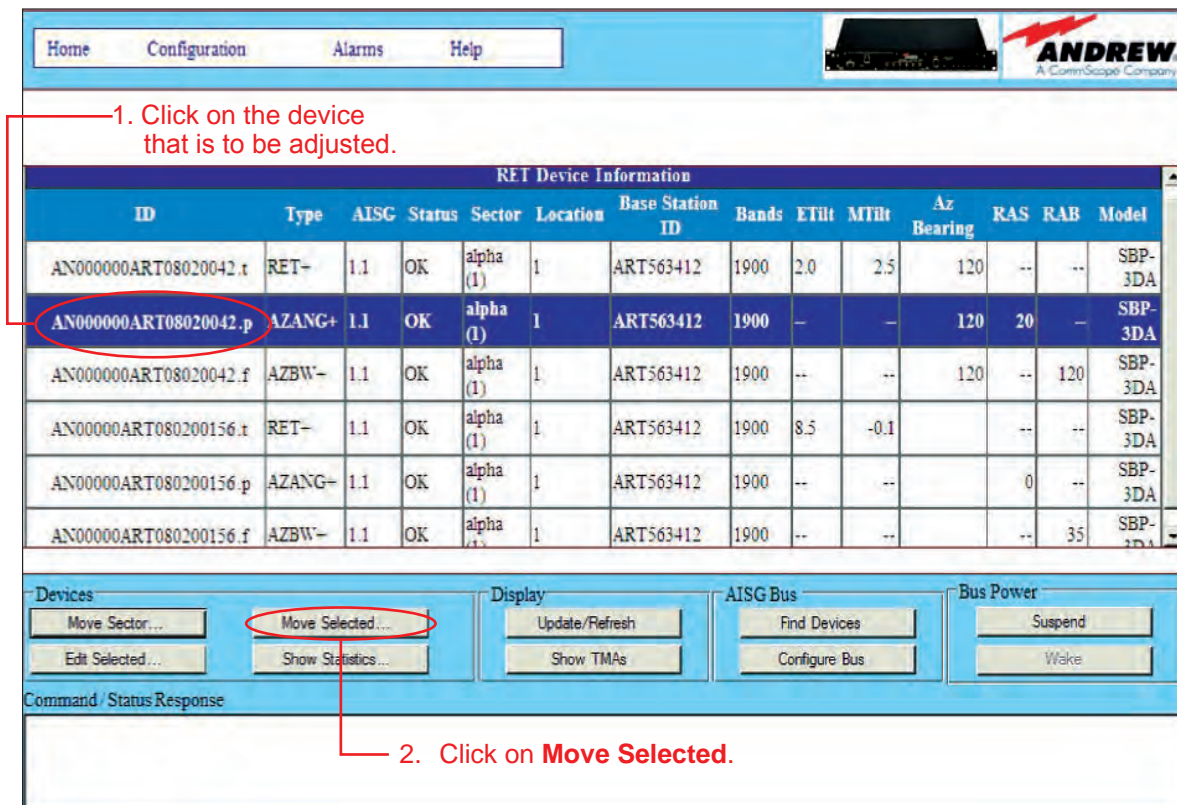

Figure 20-1. Selecting Device To Be Adjusted.
1. From the controller's main interface screen, select the device ending in a ".p" (for "pan") to be moved (Figure 20-1).
2. Click on **Move Selected** (Figure 20-1).